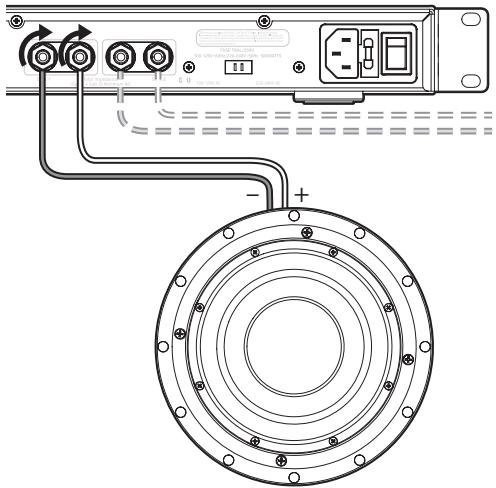

Fig. 8
a. **Use the SUB terminal connections (for NV-SUBAMP200-xx and NV-SUBAMP500 models) See Figure 8:**